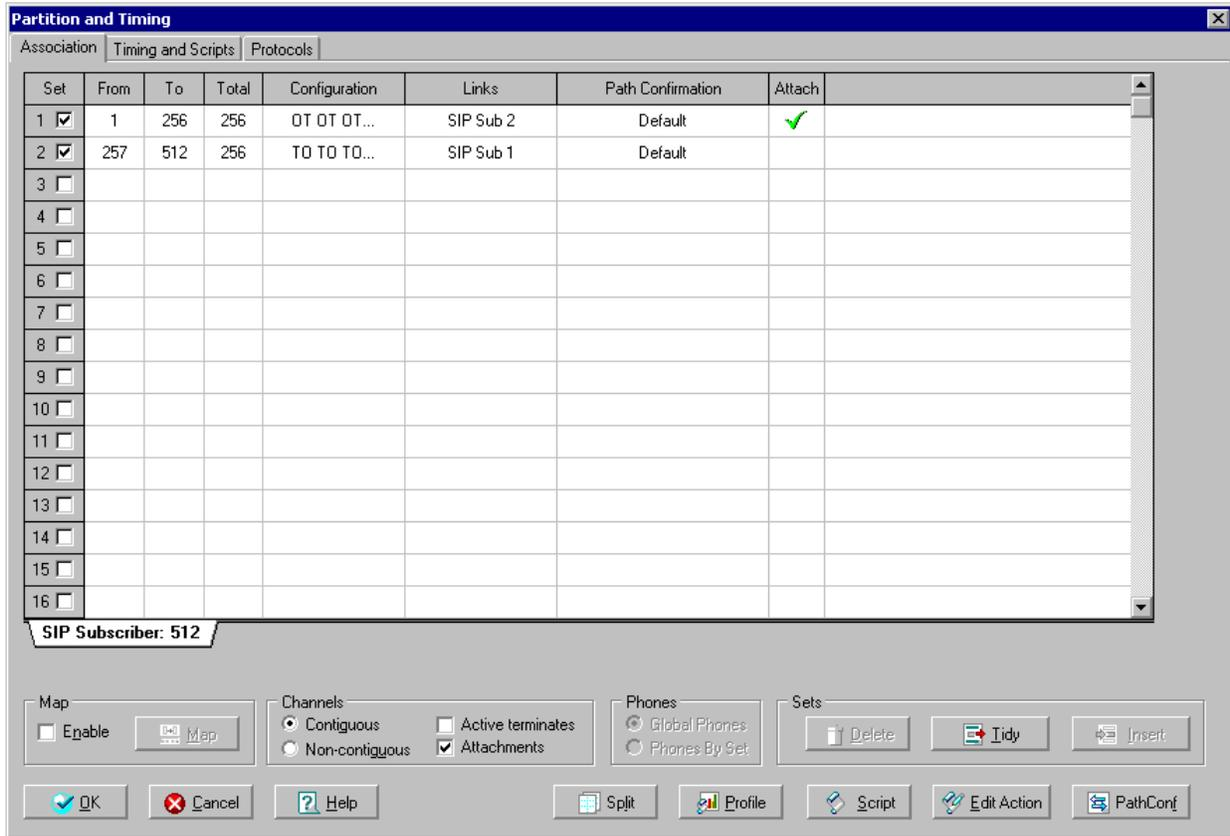

Figure 2. Partition and Timing Window
*Figure 2* shows the **Partition and Timing** window with **Attachments** enabled.